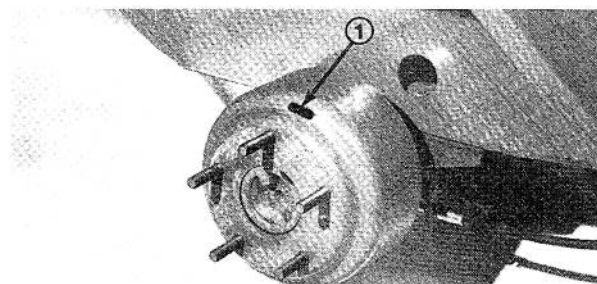
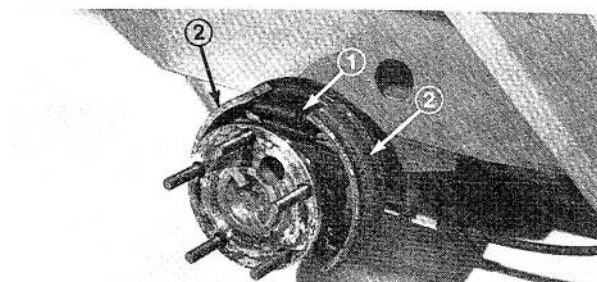

Figure 31
Figure 32
6. Remove wheel nuts and slide wheel and tire assembly off studs. Rotate brake drum until adjusting slot is at top and centered over star-nut that adjusts brake shoes (Fig. 31).
7. Using a brake adjusting tool or screwdriver rotate star-nut (Fig. 32) until brake drum (Fig. 31) locks because of outward pressure of brake shoes (Fig. 32).